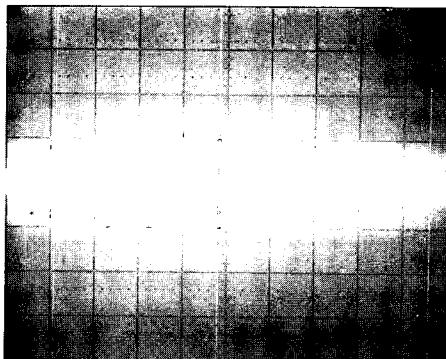

Figure 5-6. Waveform at A13TP1.
- g. Adjust "OFS-1" potentiometer A13R1 until dc level of displayed waveform is 0mV $\pm 1\text{mV}$. Refer to Figure 5-6 which shows well adjusted waveform.